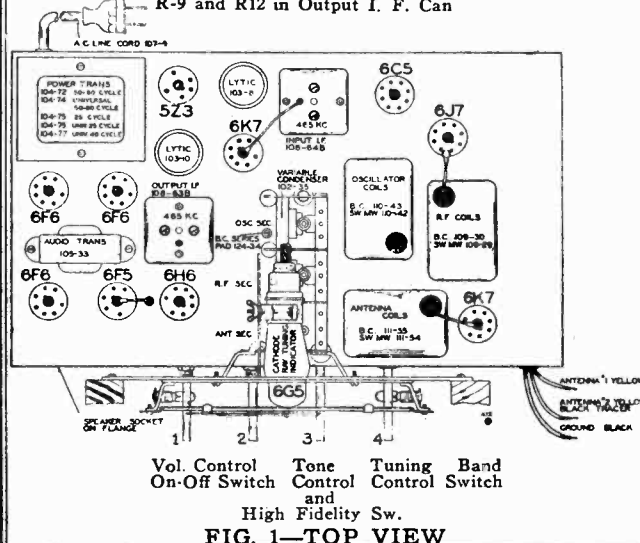

FIG. 1—TOP VIEW
These I.F. transformers have two adjustments, both of which are accessible from the top of chassis (see top view Fig. 1).
- (a) Adjust broadcast series pad (adjustment number 3) to resonance with oscillator. Keep set in tune with oscillator by slowly rocking to and fro the variable condenser until maximum output is obtained. Note: This adjustment is accessible from the top of the chassis and is located between the variable condenser and the 108-63 output I.F. transformer. See top view, Fig. 1.